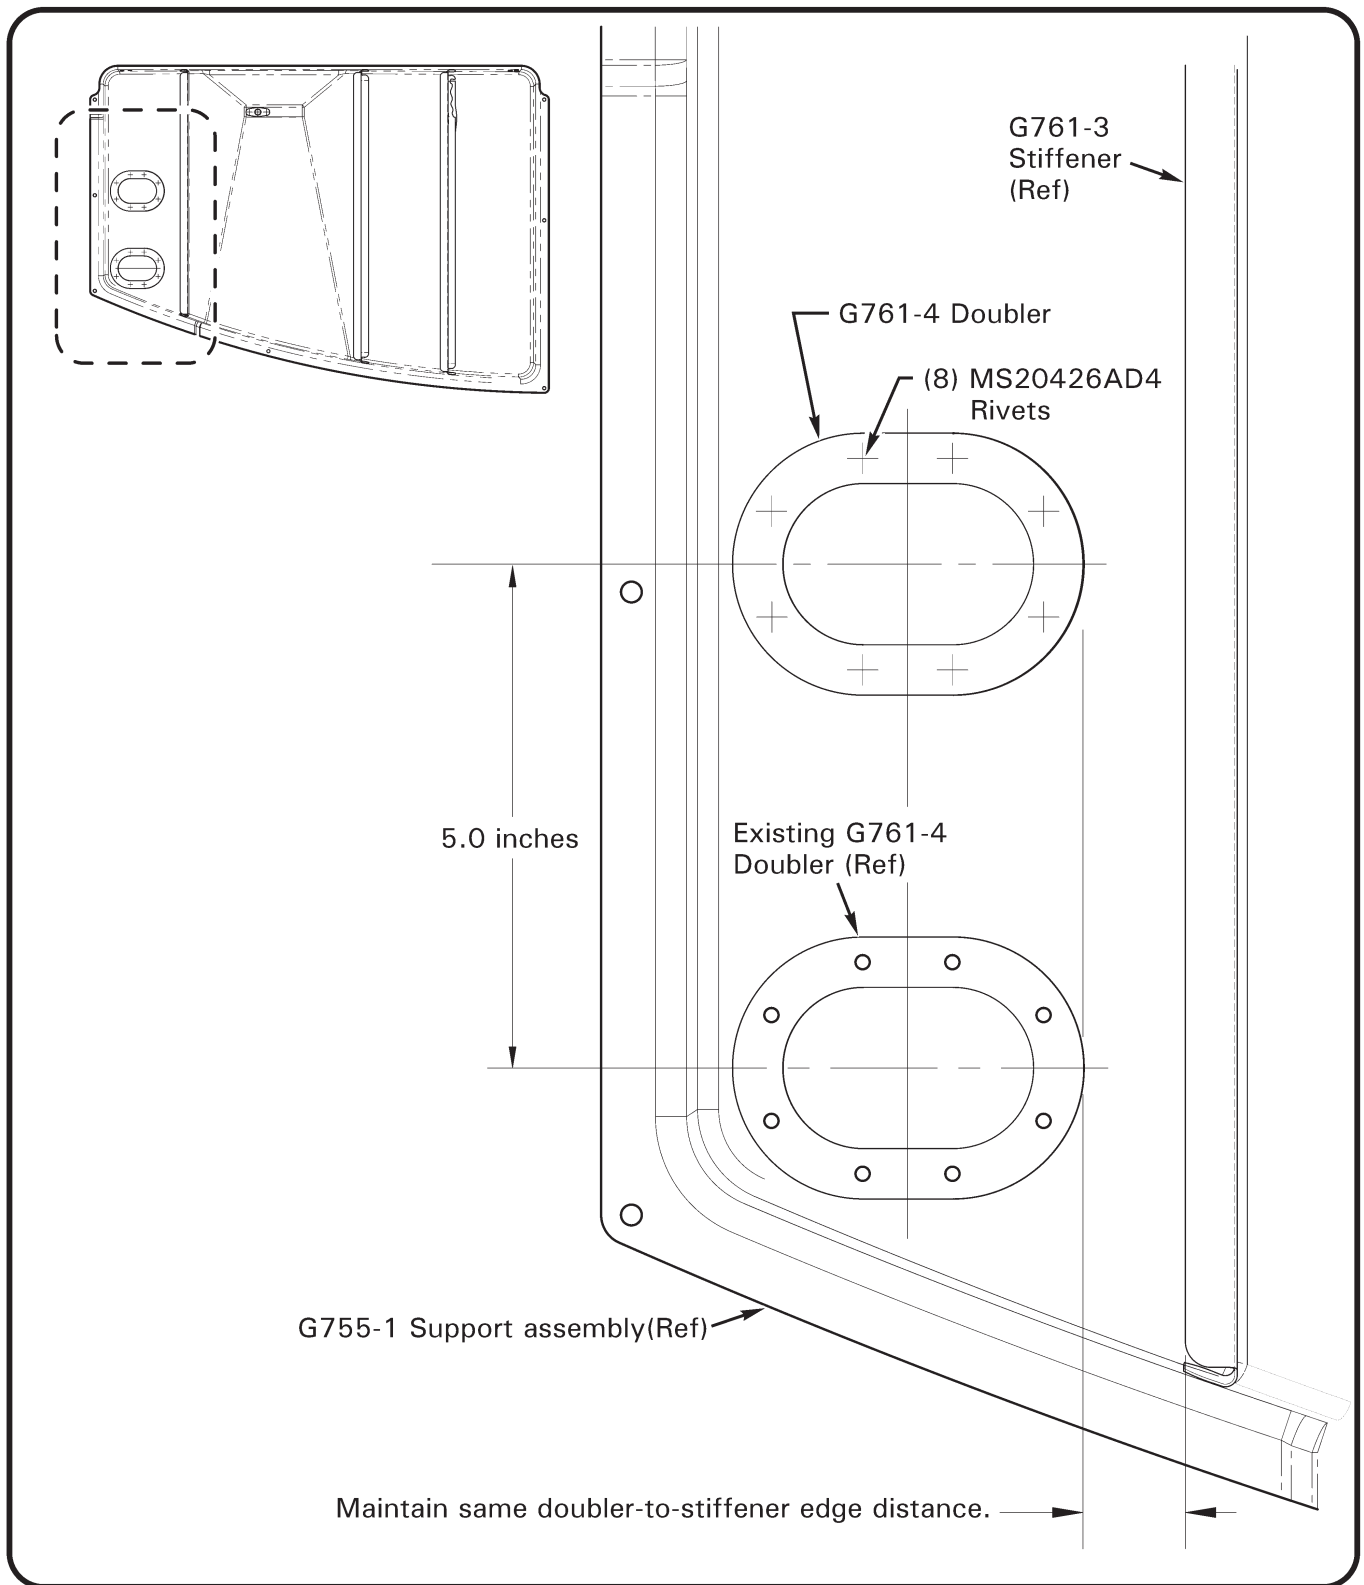

FIGURE 5 Modification of G755-1 support assembly
15. Refer to Figure 5. With G755-1 support removed from helicopter, position G761-4 doubler on inside of support as shown and mark location of one rivet hole. Remove doubler.